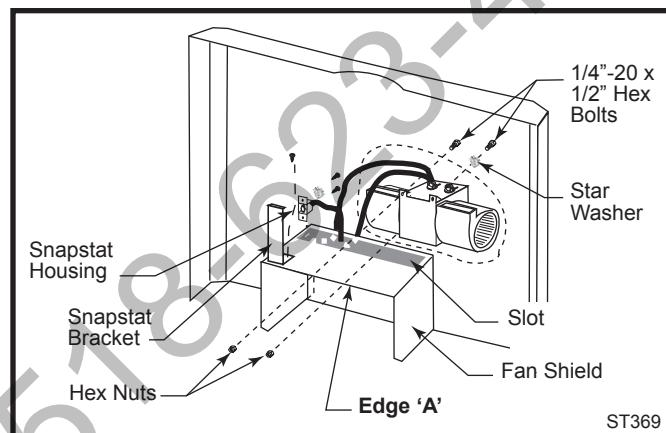

Fig. 12 Position fan behind rear shroud.
3. Position the fan behind the rear shroud. (Fig. 12) Pass the fan rheostat assembly and snapstat assembly beneath the stove toward the front.
5. Attach the snapstat housing to the snapstat bracket with two sheet metal screws and one #8 star washer. (Fig. 12)
6. Attach the snapstat bracket, with the snapstat assembly attached to it, to the horizontal surface on the inside of the rear shroud. Use a sheet metal screw. There are predrilled holes at each corner of the panel for this. The vertical part of the snapstat bracket should be 3/16" back from Edge 'A'. (Fig. 12)
7. Attach the fan assembly to the rear shroud using two 1/4"-20 x 1/2" hex head bolts, two 1/4"-20 nuts and one 1/4" star washer. (Fig. 12)